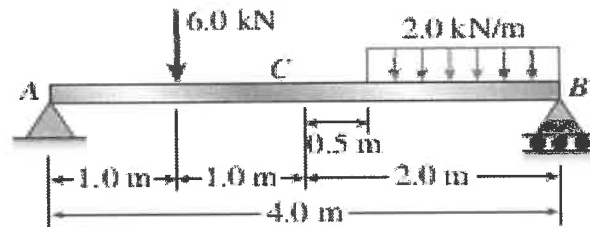

Figure 2: A beam.
The beam shown in Figure 2 is pin supported at A and roller supported at B.
- a) Determine the support reactions at A and B for the beam as shown in Figure 2. Provide the answers up to two decimal places. (3)